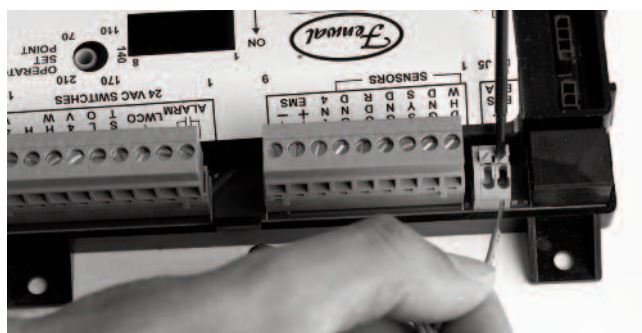

Fig. 26: FT_BUS Wire Connection
3. Connect the FT_BUS wires to the PIM™ by pressing down on the slots with a small screwdriver and then inserting the wires into the holes. See Fig. 26.